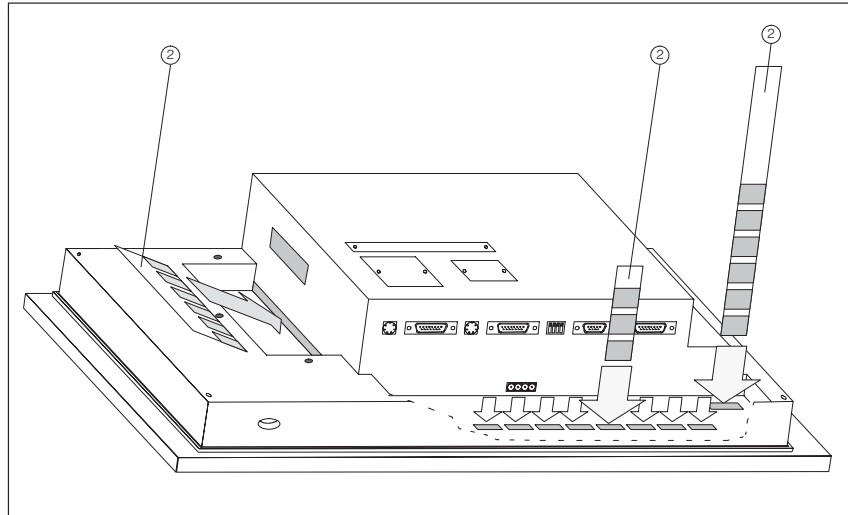

Figure 17-4 Inserting Labeling Strips
5. Insert the new strips ② with the inscription facing downwards into the slits on the front plate (see Figure 17-4).